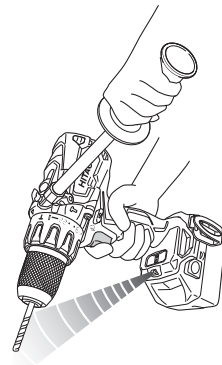

Fig. 25
17. LED light warning signals (Fig. 25)